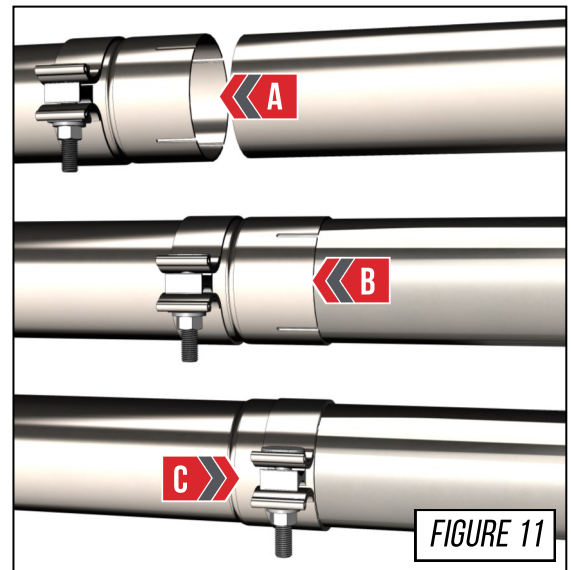

FIGURE 11
**Arrow A** in **Figure 11** shows the expanded pipe and the preinstalled Accu-Seal clamp being brought up to the corresponding pipe.
**Arrow B** in **Figure 11** shows the overlapping pipe installed correctly over the corresponding pipe.
**Arrow C** in **Figure 11** shows the Accu-Seal clamp being brought to the edge of the expanded pipe.